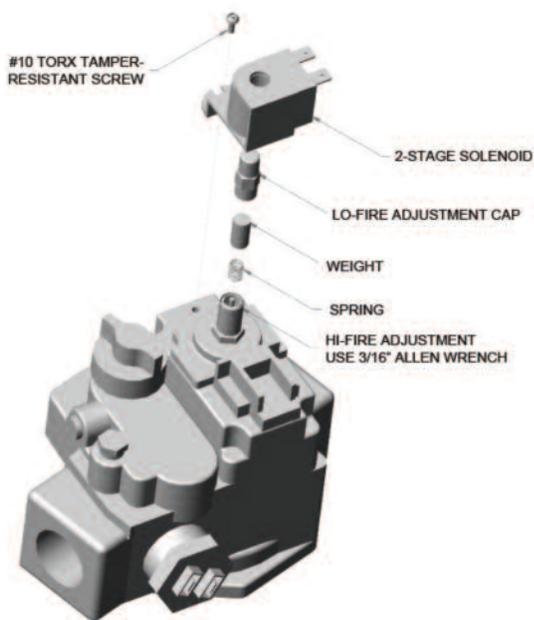

Fig. 35: Gas Valve Adjustment (Invensys Valve)
- Locate and remove the Torx tamper resistant screw. (Shown in Fig. 35)